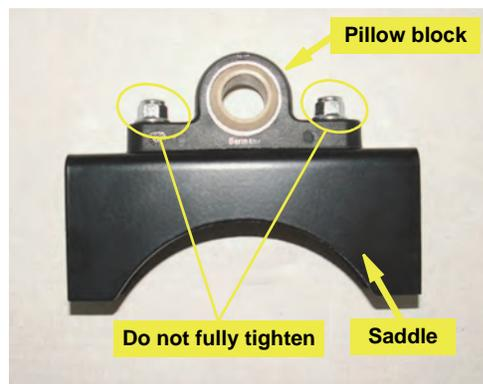

Figure 4a: Attaching the pillow block to the U-bolt saddle
- a. From hardware **H**, using two of the nuts, attach the pillow block to the U-bolt saddle. Do not fully tighten the nuts yet (Figure 4a).